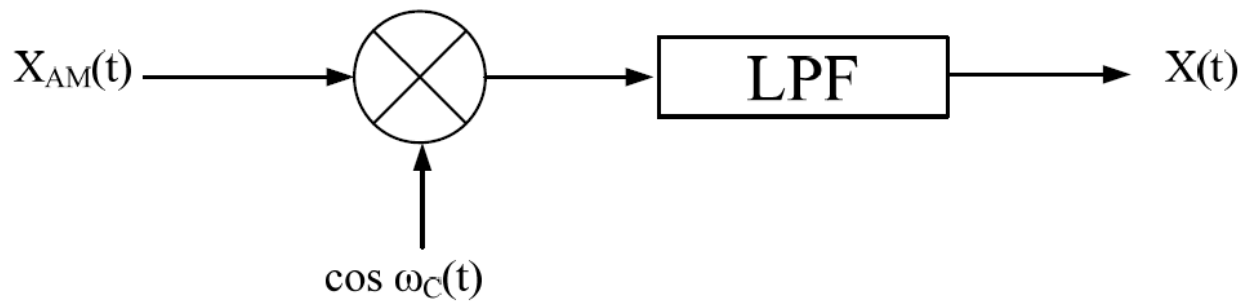
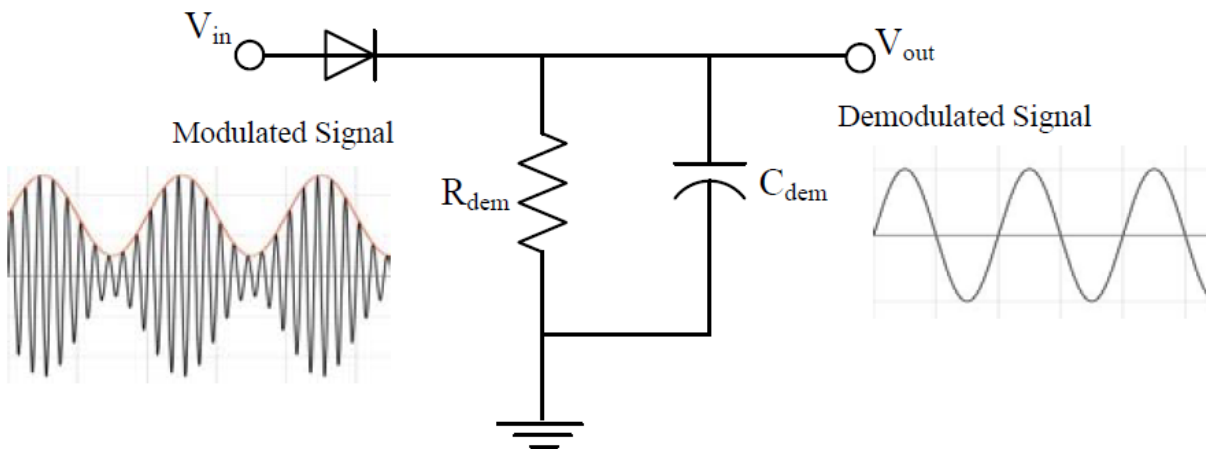

Figure 2 - High-level system diagram of an AM demodulator
Figure 3 - Circuit diagram of a passive demodulator
In general, to down convert a signal to its baseband frequency, the signal must be multiplied by a carrier wave then sent through a low pass filter as shown in *figure 2*. This approach is further discussed in detail in your communication courses. However, for AM signals, a simpler method involving amplitude detection may be used. To do so, you will use the demodulator circuit shown in *figure 3*.
1. In your own style, briefly explain the operation of the circuit shown in *figure 3* and indicate the factors to consider when selecting the capacitor and resistor values.
Create the circuit shown in *figure 3*. Using the function generator, set the carrier signal to the frequency band assigned to you by your instructor. Modulate the signal using the AM modulation function of the generator. The audio signal will then be “carried onto” the carrier frequency through AM modulation.